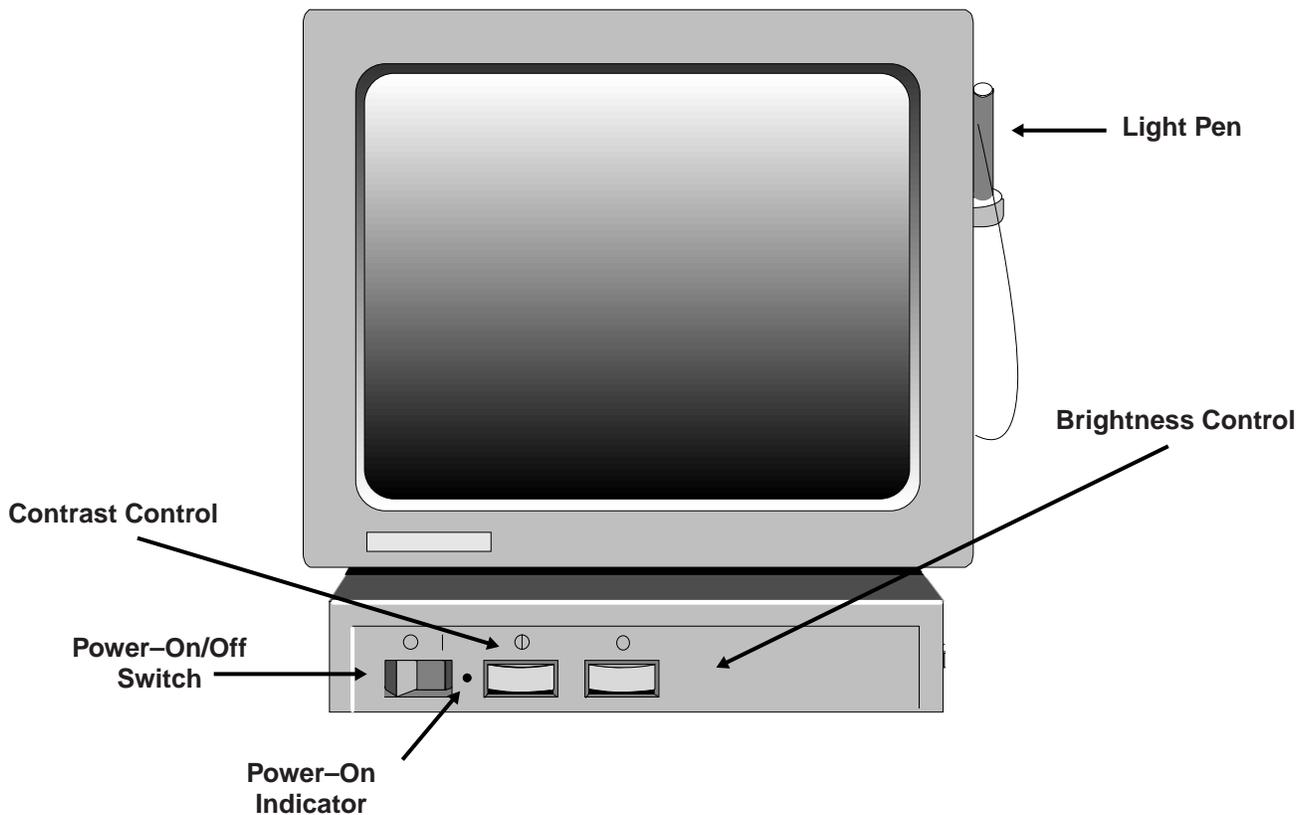

Figure 2-3. 1481 Front View
- 4) Mount the light pen holder onto the side of your display station as displayed in Figure 2-3.
- 4) Make sure that the Power-On/Off switch is set to Off (see Figure 2-3).